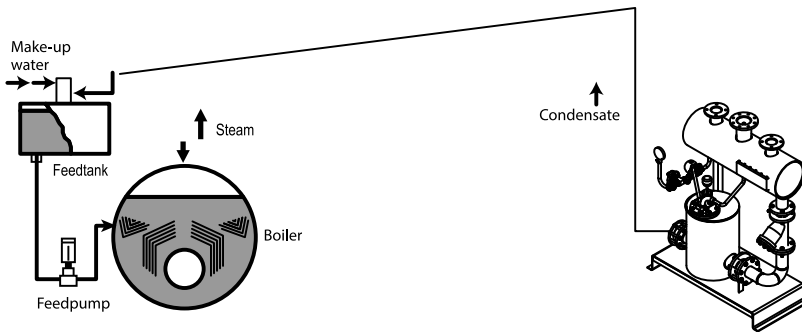

Figure 4: Routing the condensate line to the Feed Water Tank
- 5.1 Care to be taken while routing the condensate pump discharge line :(Refer to Fig.4)